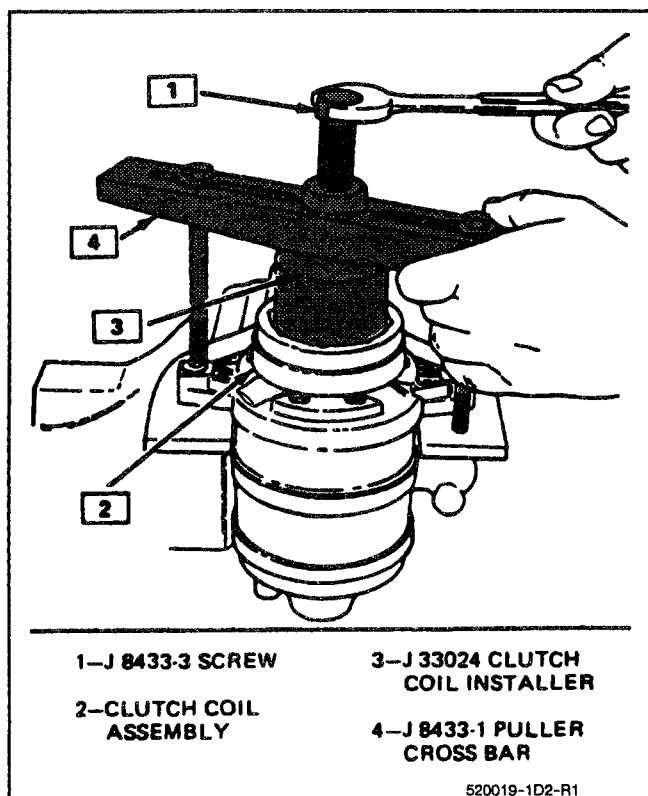

Fig. 15 Installing Clutch Coil Assembly
3. Center the J 8433-1 puller crossbar in the counter-sunk center hole of the J 33024 clutch coil installer. Install the J 33026-2 through bolts and washers through the crossbar slots and thread them into the holding fixture J 33026 to full fixture thickness (Fig. 15).